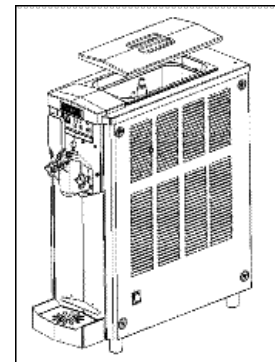

Fig. 64
- Replace the cover on the tank, insert the plug and turn on the main switch (Fig. 64).